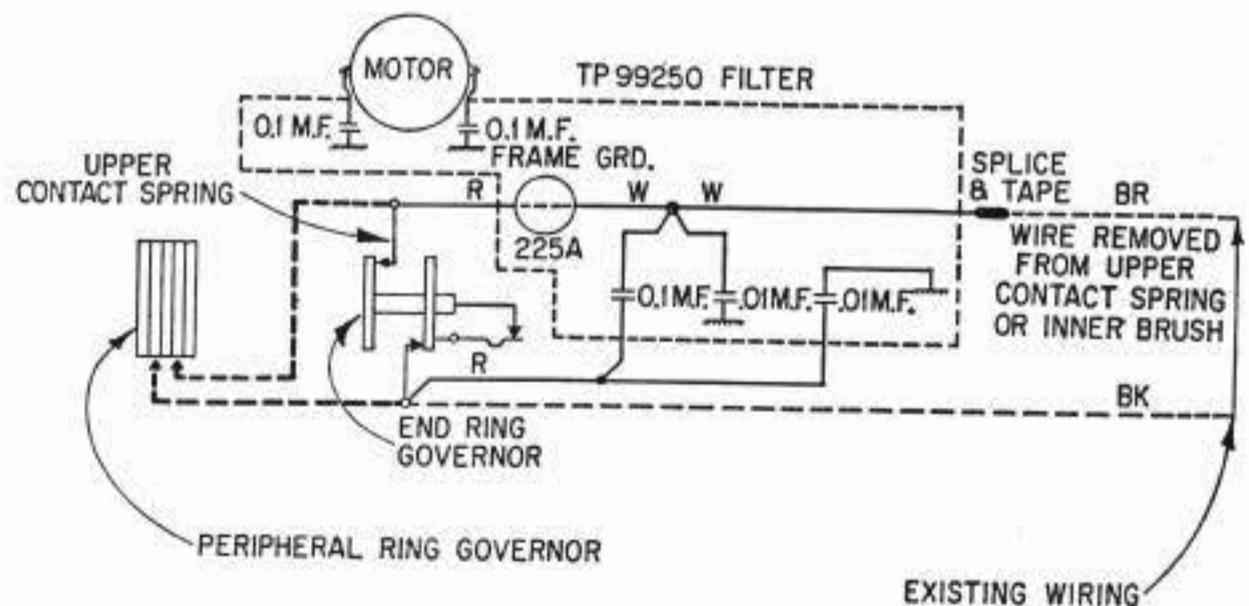

Fig. 1
- 2.04 Refer to Fig. 1 and connect the filter unit as follows:
- (1) Connect the free lead of the individually mounted capacitor to the brush on the same side of the motor.
- (2) Connect the free lead of the inner capacitor (the one in the group of 4 which is nearest to the motor shaft) to the brush on the opposite side of the motor.
- (3) Remove the brown wire connected to the upper (outer contact) spring of the end-ring governor contacts and splice this wire to the white coil lead and its associated capacitor leads. Solder and tape this connection.
- (4) Connect the red lead from the coil to the upper (outer contact) spring of the end-ring governor contact cutting this lead to make the connection as short and direct as practicable.
- (5) Connect the red lead joining the two remaining capacitors to the bottom (inner contact) spring of the end-ring governor contacts leaving the black wire already on this spring in place.
- (6) In connecting the filter to the peripheral-ring governors the red lead from the coil should connect to the brush associated with the inner ring.
- (7) Check the connections to see that they are in accordance with Fig. 1.